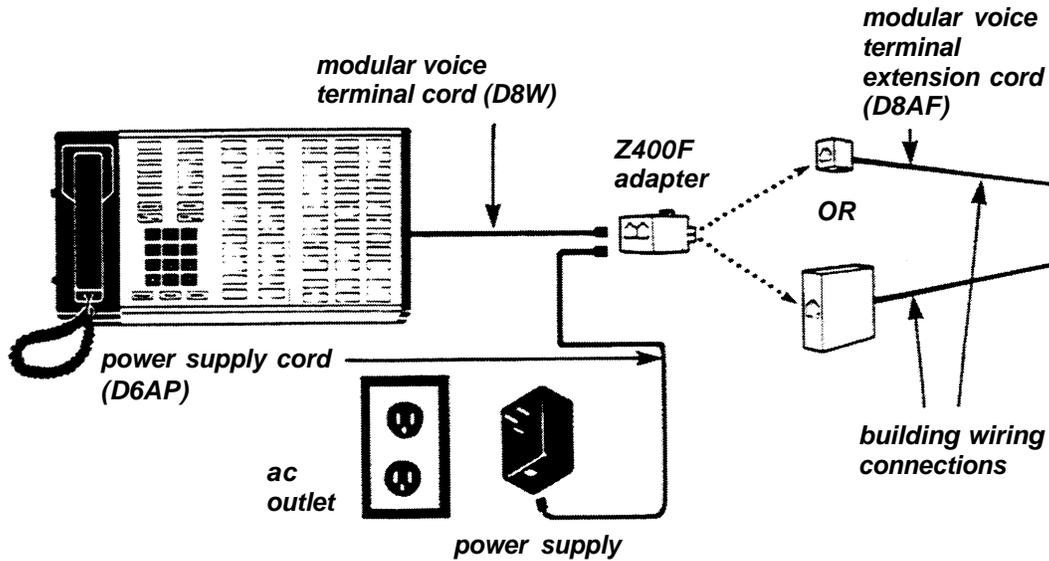

Figure 10.
4. Refer to the exploded view in Figure 10 to make sure all the components are installed correctly.